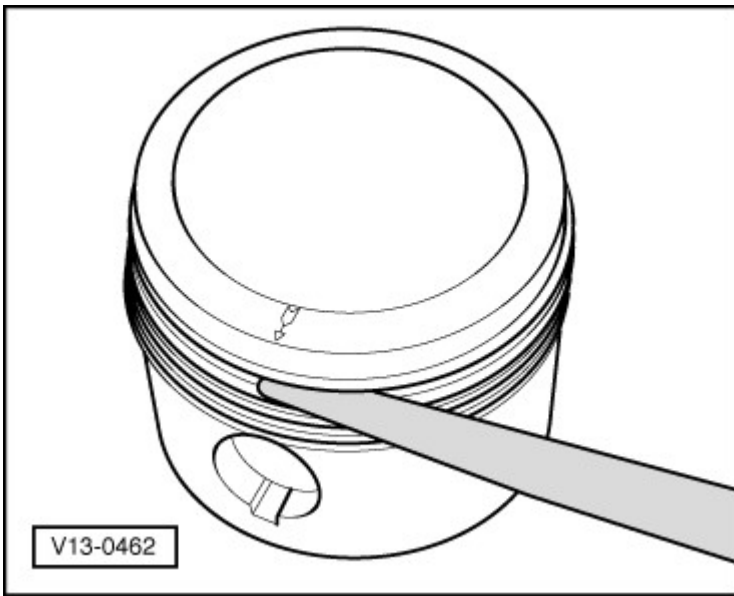

Fig. 16: Checking Piston Ring Side Clearance
- Measuring side clearance, refer to **Fig. 16**